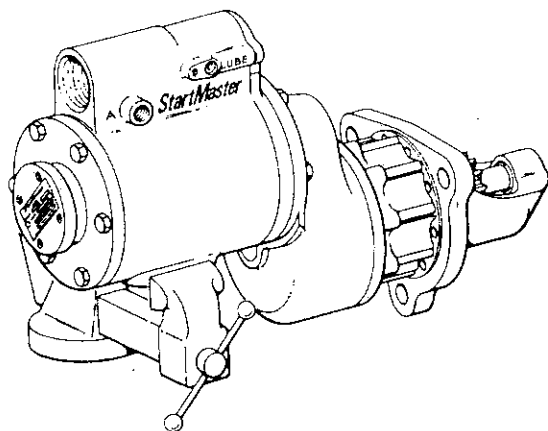

Figure 3.2
2. Clamp muffler flange in vise equipped with copper lined jaws. See Figure 3.2.